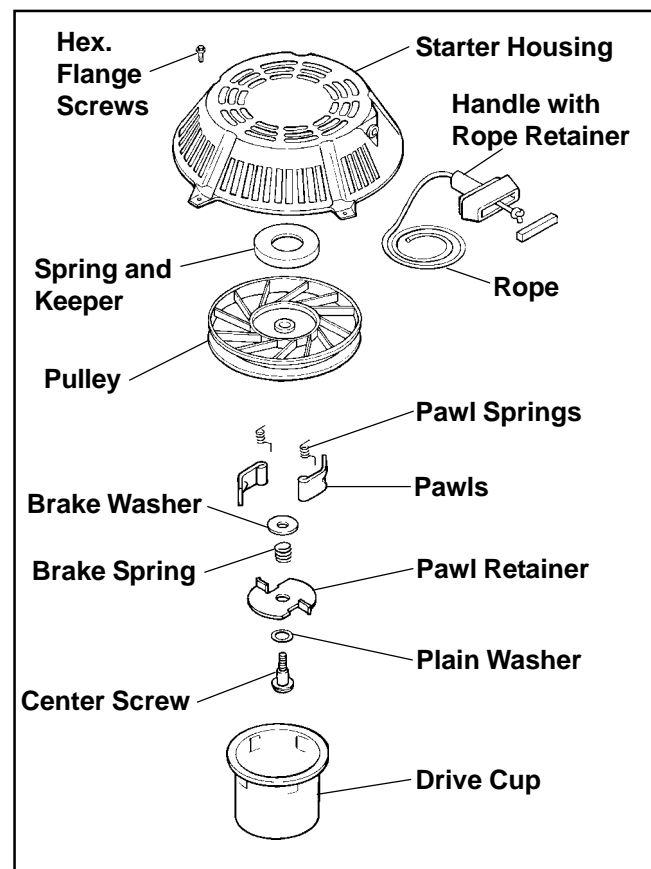

Figure 7-1. Retractable Starter - Exploded View.
- Replace all worn or damaged components. Use only genuine Kohler replacement parts as specified in the Parts Manual. All components shown in Figure 7-1 are available as service parts. Do not use nonstandard parts.